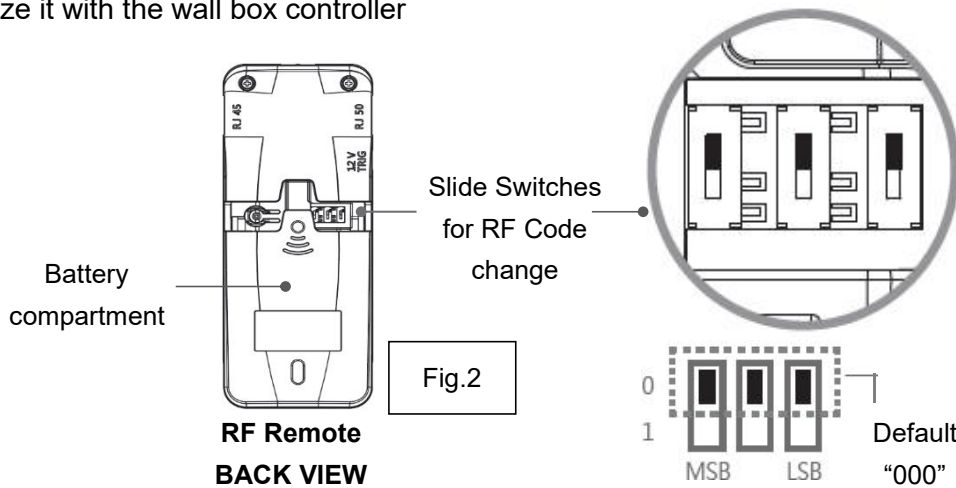

Fig.2
**How to change the RF code** (For use when multiple screens/RF remotes are owned, Fig.2)